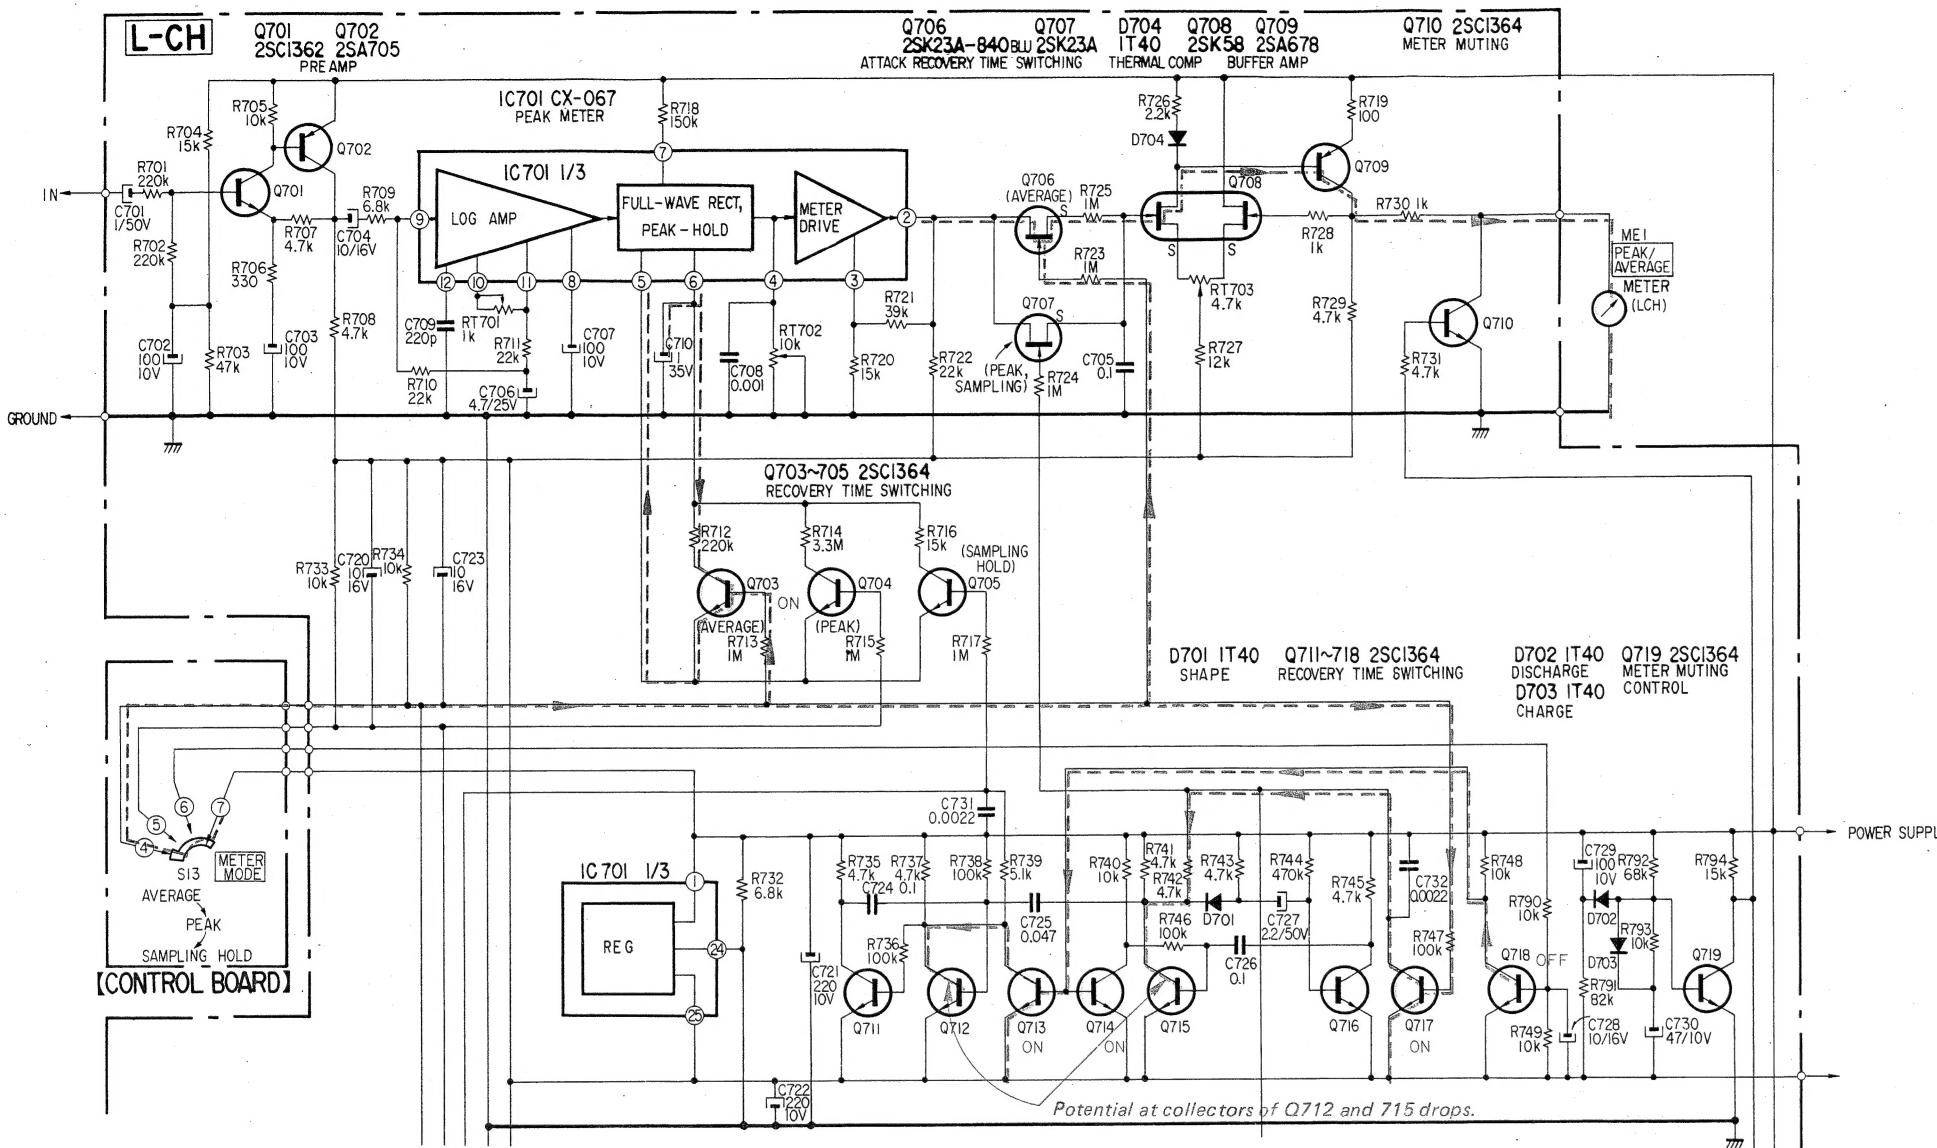
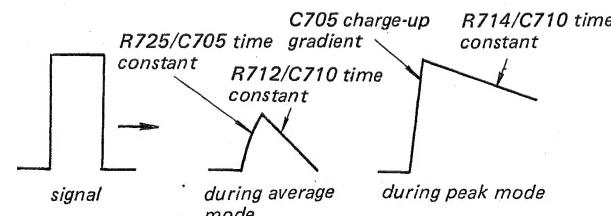
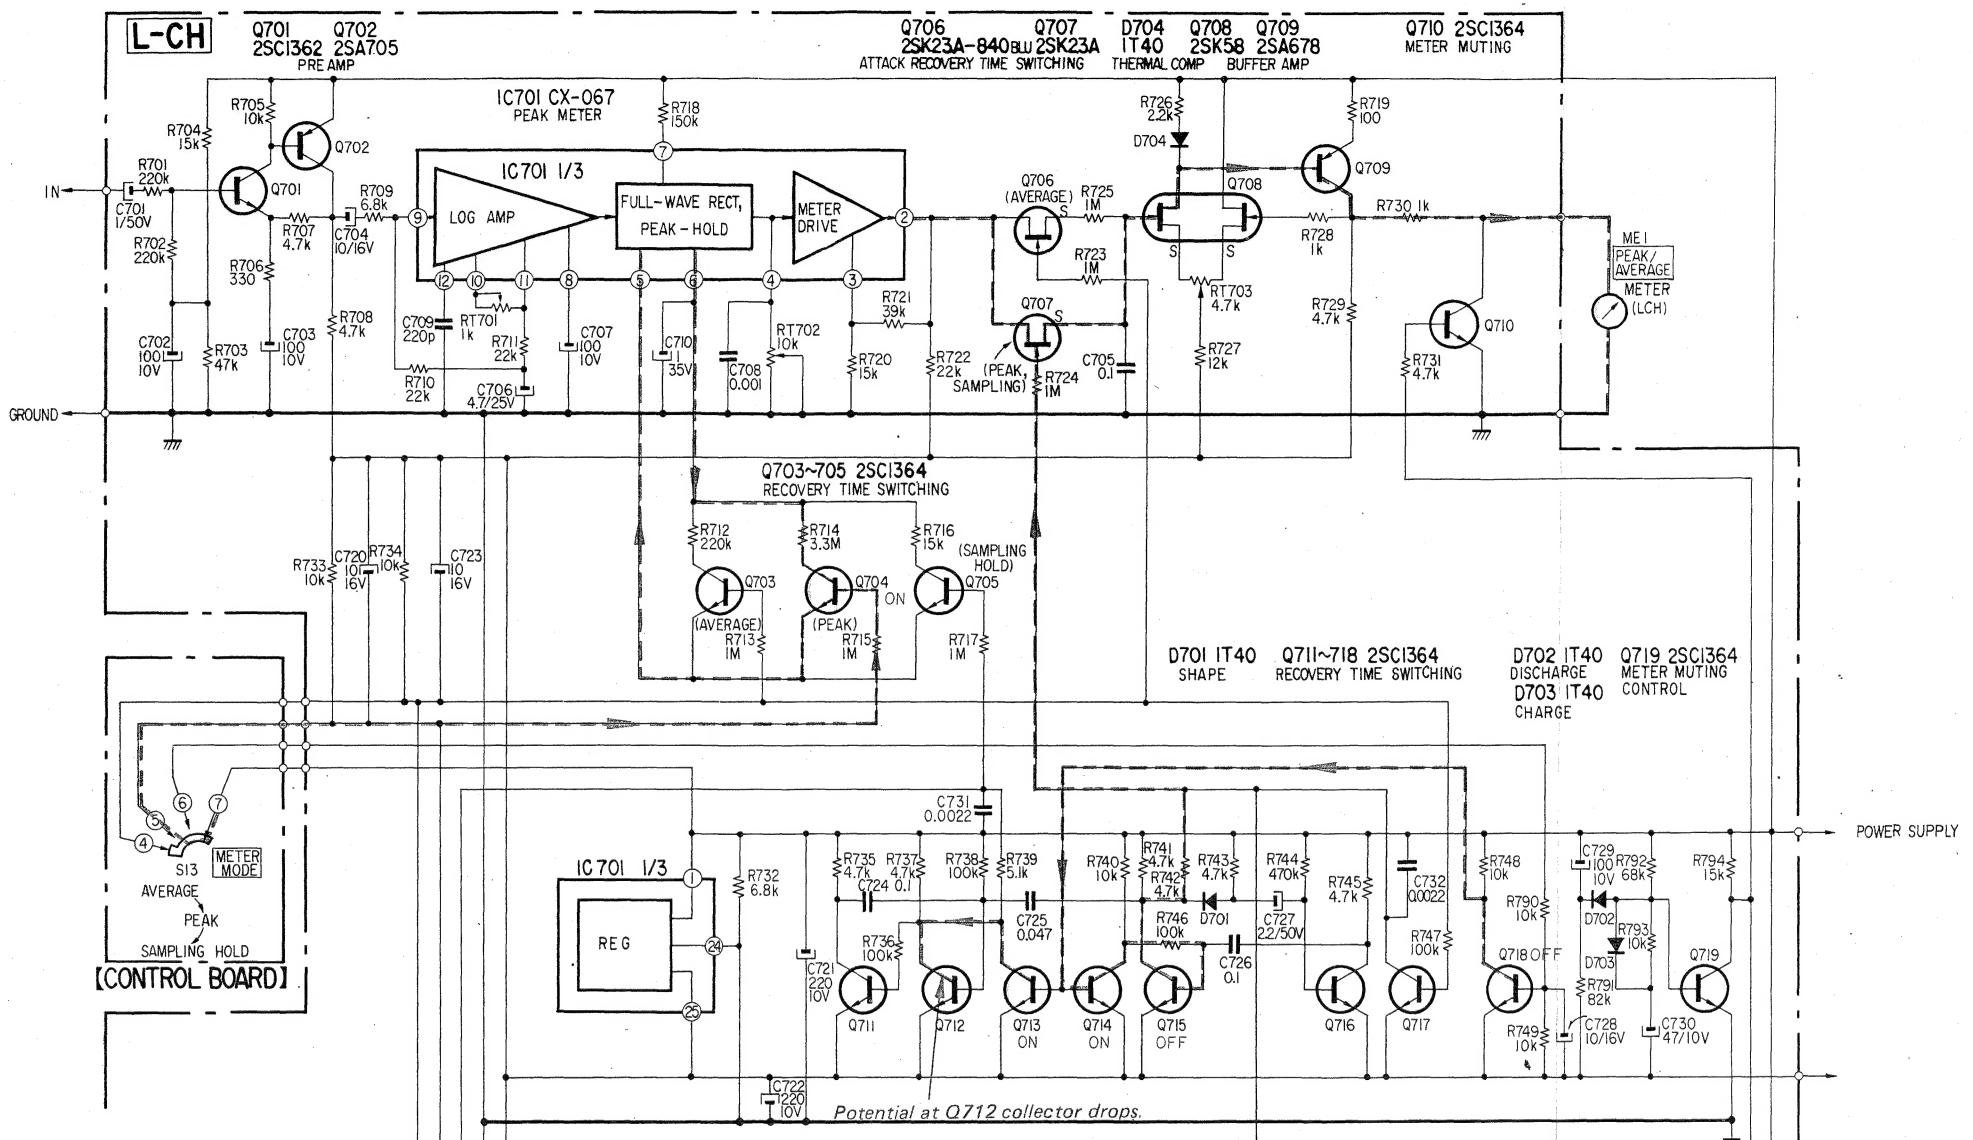

Fig. 1
Fig. 3
Fig. 4
#### 1. Preamplifier Circuit (Fig. 1)
#### 2. IC701 (CX-067) and Its Surrounding Circuits (Fig. 1)
- \* During peak mode, Q704 is turned on (see Fig. 4), and C710 discharges through R714 ( $3.3\text{ M}\Omega$ ) taking approximately five times longer than during average mode (see Fig. 3).
- \* During average mode, Q703 is turned on (see Fig. 1), and C710 discharges relatively rapidly through R712 ( $220\text{ k}\Omega$ ) (see Fig. 3).
- \* During average mode, Q706 is turned on (Fig. 1) and current passed through R725, charges C705. Charge-up time is thus determined by the C705/R725 time constant. (Fig. 3).
- \* During peak mode, Q707 is turned on (Fig. 4), but since there is no resistor connected in series, C705 will charge up immediately (Fig. 3).